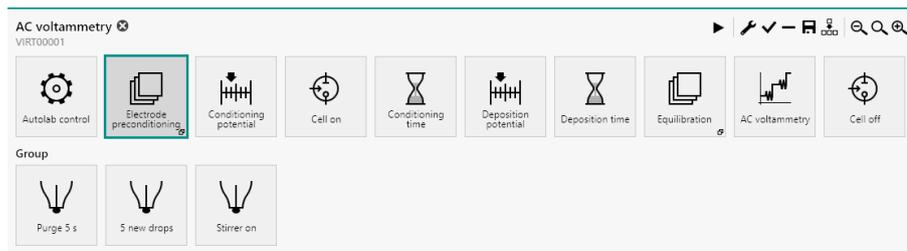

Figure 661 The Electrode preconditioning group
- **Electrode preconditioning:** this command group is used to create new mercury drops at the beginning of the procedure. The commands in this group are used to purge the solution for the specified duration, create the specified number of new drops and switch the stirrer on (see figure 661, page 552).